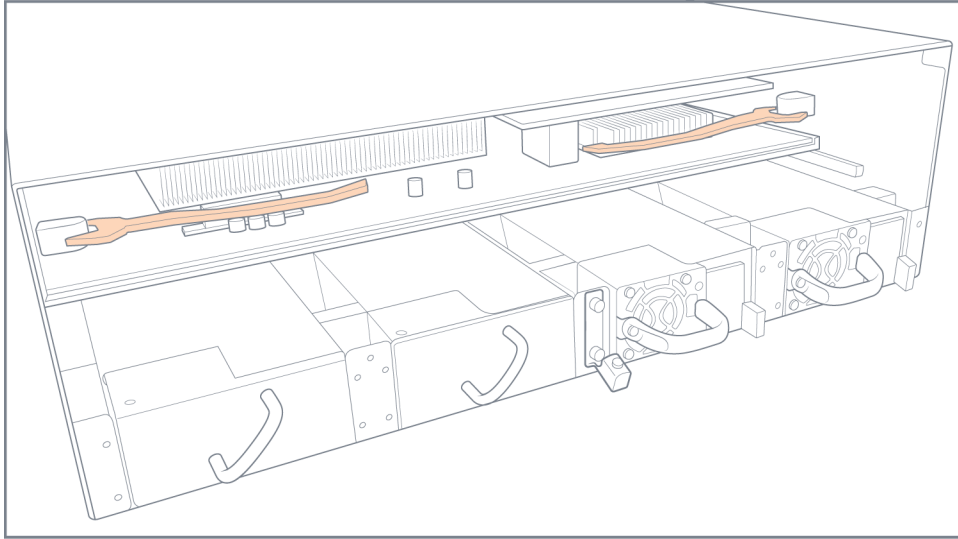

Figure 4-22: Control Card Seated
3. Seat the control card as shown in Figure 4-22 on page 86.